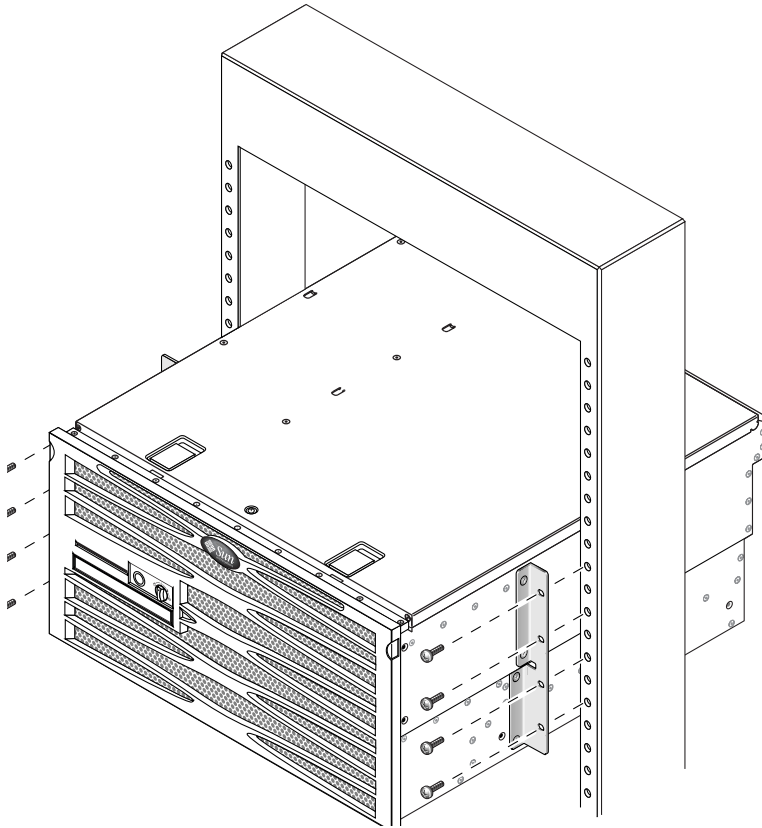

FIGURE 3-28 Installing and Securing the Server in the 2-Post Rack
4. Using four screws for each bracket, secure the front of the server to the front of the rack (FIGURE 3-28).